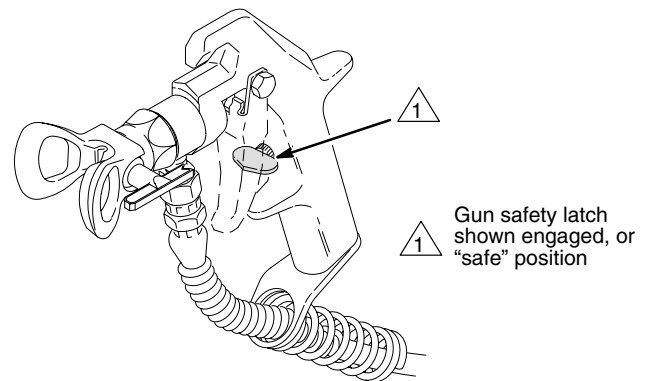

Fig. 18
- Engage the gun safety latch. See Fig. 18.